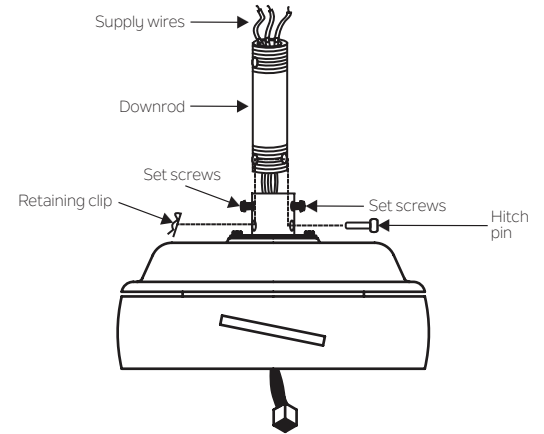

Fig. 8
**Step 6.** Loosen the two set screws and remove the hitch pin and retaining clip from the coupling on top of the motor assembly. (Fig. 8)
Next, replace the hitch pin and retaining clip. Tighten both set screws. (Fig. 8)